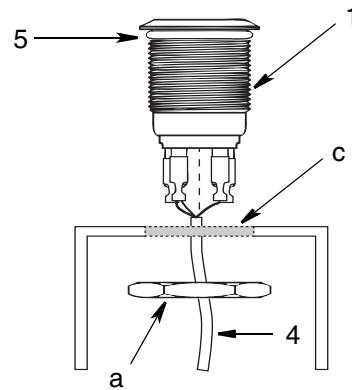

FIG. 2
5. Route and secure wiring harness (4) from G3 installation location. Trim excess wire length from wiring harness (4).
6. Strip approximately 1" of harness jacket and 1/4" of conductor back. Install quick connectors (2) to wires (4) using a crimp connector.
7. Insert end of wires (4) from the back side of panel or plate, through lock nut (a) and through hole in panel or plate (c) (FIG. 2). (Note location of o-ring (5) for correct installation.)